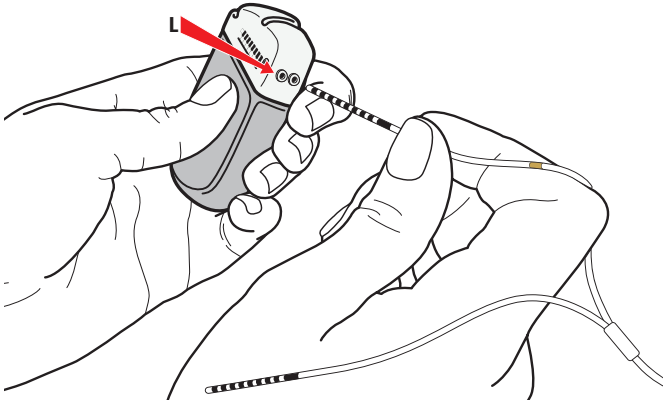

Figure 39. Connection to IPG Port L
1. Connect the left hemisphere Lead Extension tail with the gold marker band to Port L (or C) (Figure 39).